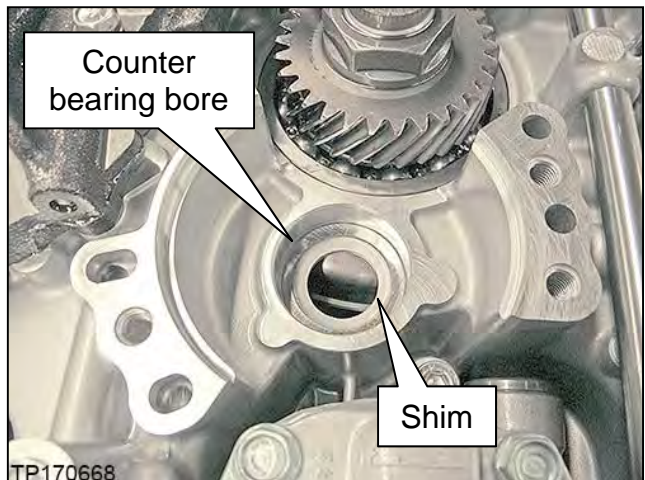

Figure 84
62. If the bearing is judged to be OK, remove the shim (Figure 84) from the bottom of the counter bearing bore.